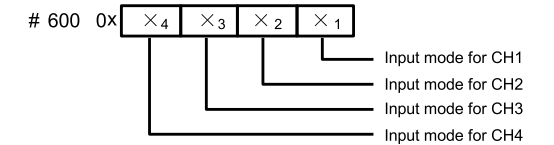

Figure 2-1 Mode setting element vs. channel
4. BFM#600: input mode selection, used to set the input modes of CH1~CH4. See Figure 2-1 for their correspondence.